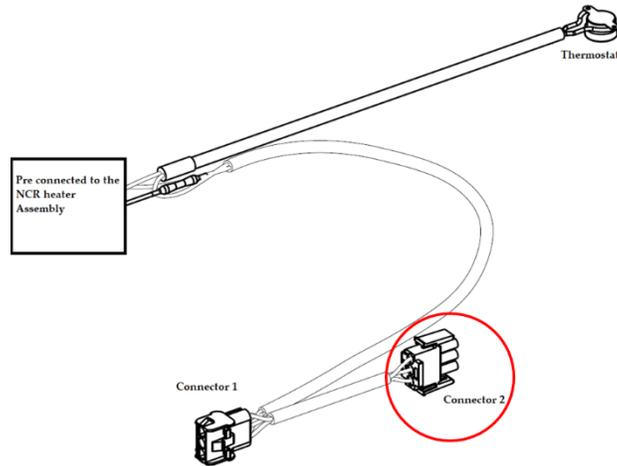
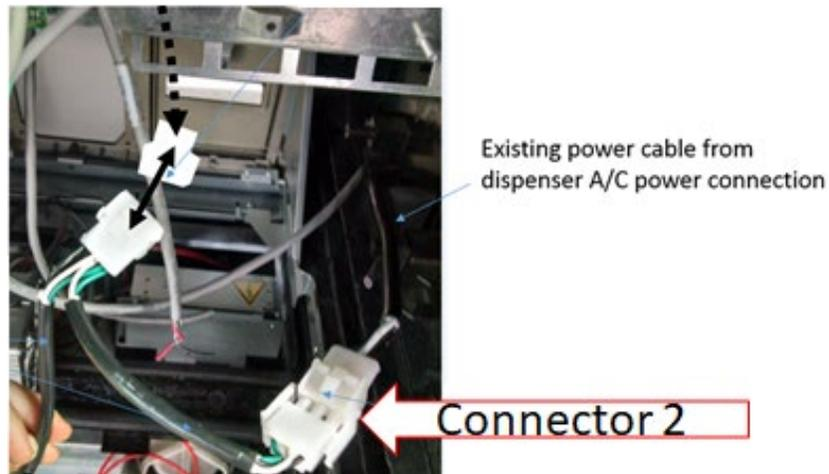

Figure 41
Figure 42
- 10) Affix Connector 2 (identified in Figure 41) to the existing dispenser A/C power cable as shown in Figure 42.